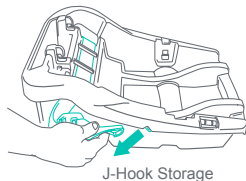

Fig. 47-1
4. Remove the **LATCH** connectors from their storage position inside the base (Fig. 47-1). Place the Base in the rear-facing position in a forward facing vehicle seat as shown in Fig. 47-2. **The Child must face the rear of the vehicle and Safety Seat must be placed in a vehicle seat that faces forward.**